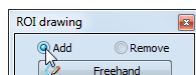

Figure 184 – Set Add/Remove mode for contour editing
2. Select the adding mode (see Figure 184). To add a drawn contour in an ROI, check the **Add** radio button. To remove drawn contour from ROI, check the **Remove** radio button.